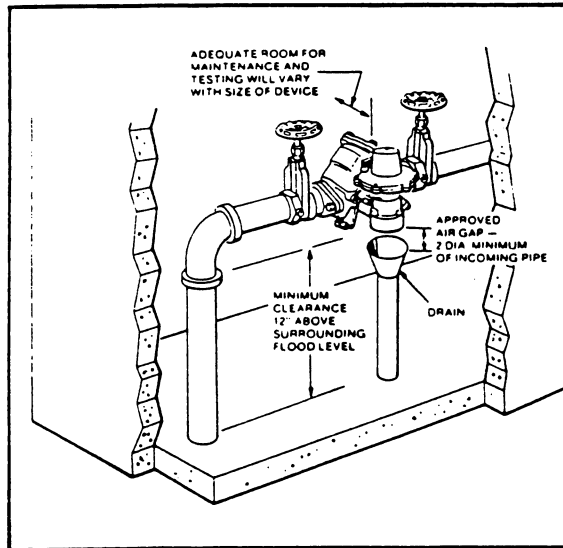

FIGURE 2. TYPICAL INSTALLATION IN BUILDING
3. Provide adequate space around the installed unit so that the test cocks will be accessible for testing, servicing, and repair (Fig. 2).
4. If installation of a Model 575 unit is in a building, provide a suitable drain arrangement to drain off spillage from the relief valve. An air gap of at least two times the pipe diameter must be provided between the relief valve and the drain piping to prevent a cross-connection (Fig. 2). Do not pipe the relief valve solidly to a floor drain, sewer or sump.